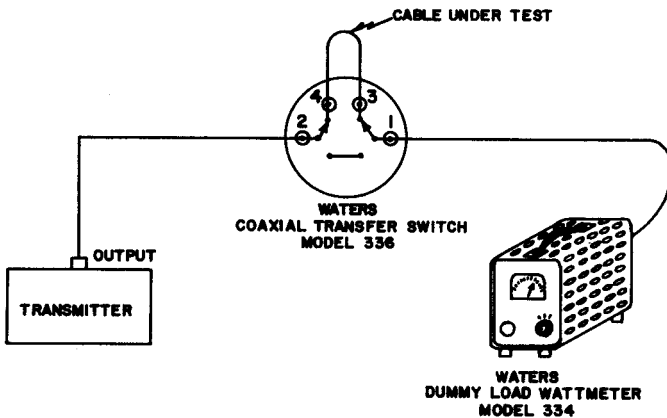

FIG. 3 MEASUREMENT OF CABLE ATTENUATION
a) Measuring Loss in Coax Cable. (See Fig. 3).